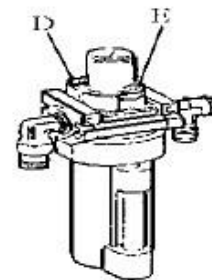

Fig 9
Unscrew with hex wrench (E). Based on connection of compressed air, first to tread Jaws open and close Pedal or Turntable Rotation Pedal 5-6 times, and then check whether oil in Oil Fog Maker drops down a drip of oil. For continuous operation, tread twice every time, drop down a drip of oil, and otherwise adjust the screw (D) that controlled oil enters with minus screwdriver. **(Fig 9)**